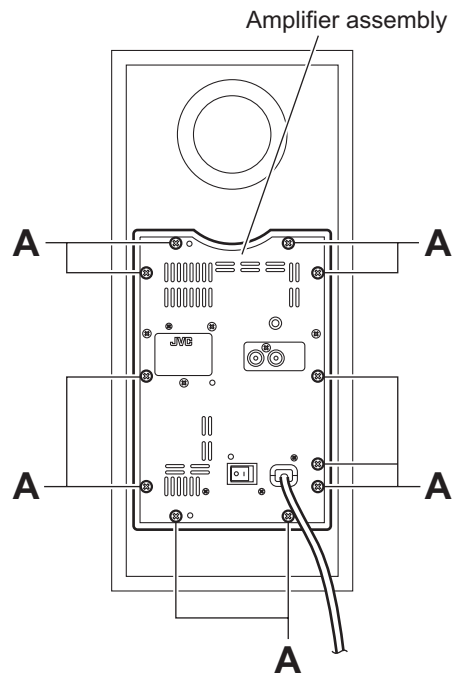
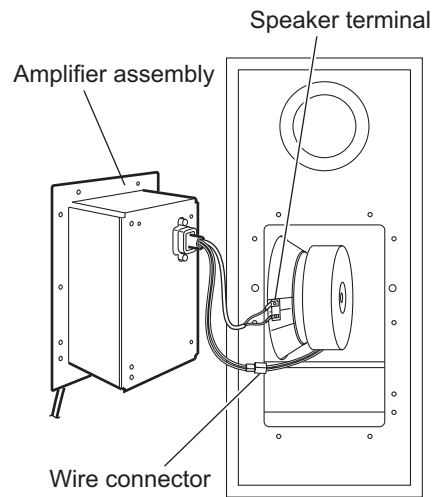

Fig.1
Fig.2
3.1 Removing the Amplifier assembly (See Figs.1 and 2)
- (1) From the back side of the main body, remove the eleven screws **A** attaching the amplifier assembly. (See Fig.1.)
- (2) Take out the amplifier assembly from the main body.
- (3) Disconnect the wire connector from the back side of the amplifier assembly. (See Fig. 2.)
- (4) Disconnect the speaker wire from the speaker terminal. (See Fig.2.)
3.2 Removing the back panel (See Figs.1 to 3)
Remove the amplifier assembly from the main body as required. (See Fig.2.)
- Remove the amplifier assembly from the main body as required. (See Figs.1 and 2.)